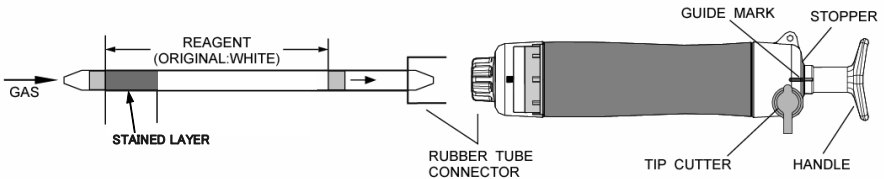

Fig.1
- ① Break both ends of the detector tube.
- ② Insert the detector tube into aspirating pump securely as shown in Fig.1.
- ③ Put the top end (filled with the reagent) of the detector tube near the object to be examined such as burnt clothes, cloth, a carpet, and soil & sand, etc. as much as possible.
- ④ Align the guide marks on the shaft and stopper of the aspirating pump.
- ⑤ Pull the pump handle at full stroke locked position and wait for 30 seconds or until the completion of sampling is confirmed with the flow indicator of the pump ( See descriptions about the flow indicator in the instruction manual of the pump). Here, gas near the object to be examined is sampled into the detector tube.
- ⑥ After completion of sampling, remove the detector tube from the pump and heat the stained layer of the detector tube from the outside by match, lighter, etc. for 2 ~ 3 seconds, and wipe the soot off from the detector tube. Then, examine the stained layer length and discolouration.